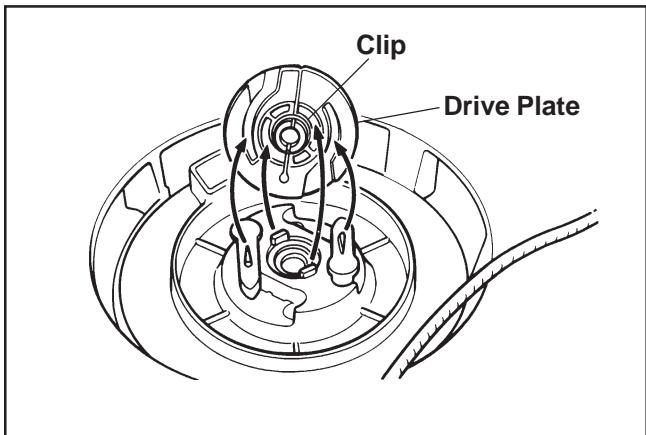

Figure 7-7. Drive Plate and Pawl Details.
- Position the drive plate over the pawls, aligning the actuating slots in the plate with the raised sections on each drive pawl. Torque the center screw to **5-6 N·m (44-53 in. lb.)**. Rotate the pulley by hand and check operation. See Figure 7-7.